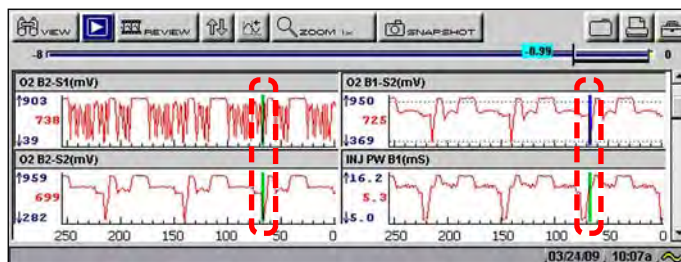

Figure 5-30 Sample trigger detection lines
Once data collection is finished, graphing on-screen stops and the Pause button automatically changes to the Play button. A vertical line now appears on each of the data graphs to indicate the triggering point. The trigger line on the parameter that triggered the snapshot is a different color than those on the other graphs (Figure 5-30). This makes it easy to determine which parameter caused the trigger.
- Select the **Play** button (Figure 5-30).